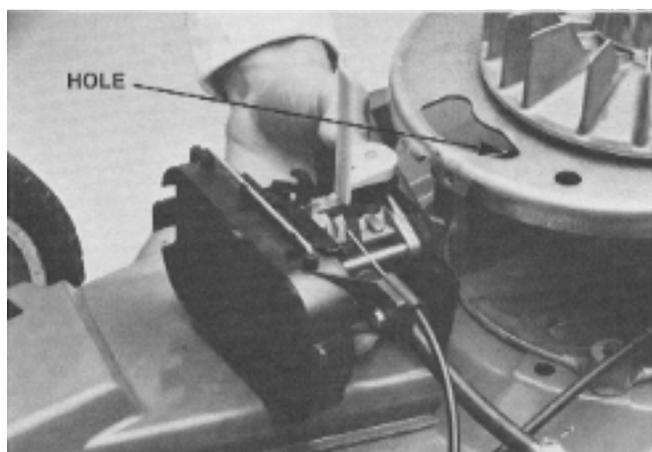

Figure 13
6. Pull the carburetor assembly down and away from the engine such that the air vane clears the hole in the shroud base (**Figure 13**).
1. While holding the carburetor and parts together, turn the assembly and guide the air vane into the opening in the shroud base (**Figure 13**).